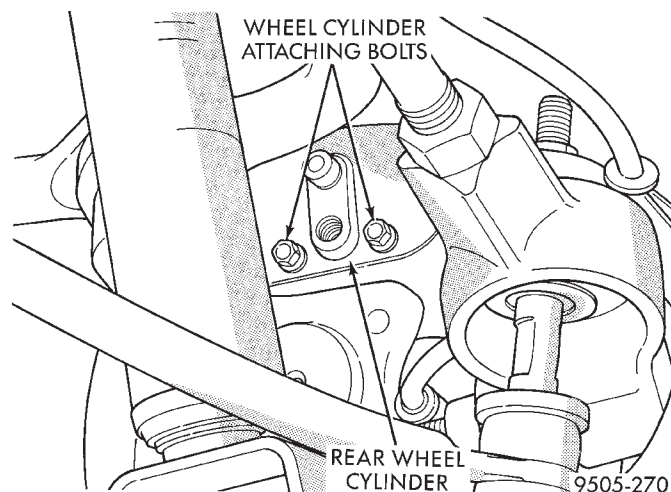

Fig. 80 Wheel Cylinder Attaching Bolts
(3) Remove rear wheel cylinder attaching bolts (Fig. 80). Then pull wheel cylinder assembly off brake support plate.
(1) Apply a small bead of silicone sealer around the mating surface of the wheel cylinder to brake support plate.
(2) Install wheel cylinder onto brake support plate. Tighten the attaching bolts (Fig. 80) to a torque of 11 N·m (97 in. lbs.).